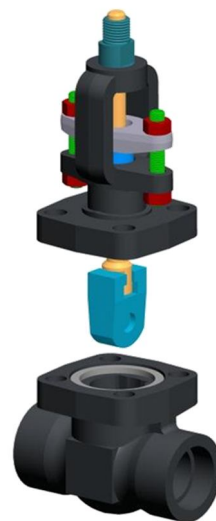

Fig. 15
- Lift the bonnet assembly including stem and disc out of the body (Fig. 15). Care shall be taken not to drop the gate/disc while lifting out.